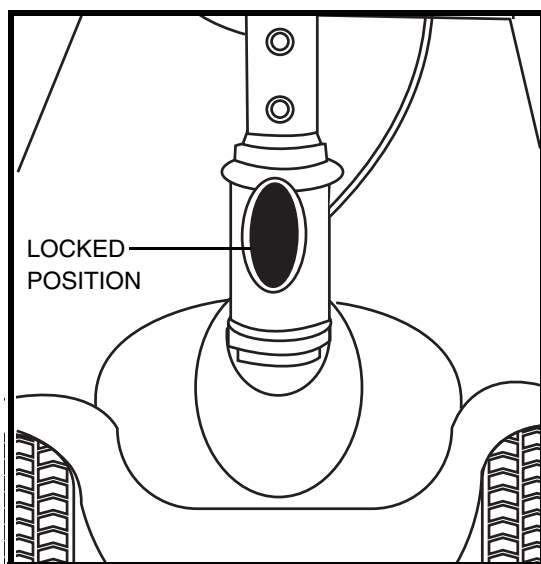

Figure 21. Tiller Lock knob (Locked)
1. Lock the tiller in the straight ahead position by pushing the tiller lock knob in and turning it clockwise 90°. See **figure 21**. The front wheel must face forward in order to lock the tiller.